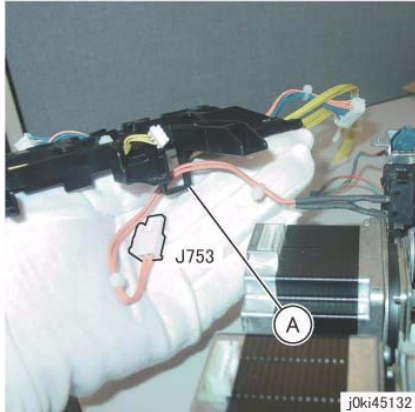

Figure 6 Hang the wire harness on the hook
2. Hang the J753 wire harness to the hook (A). (Figure 6)